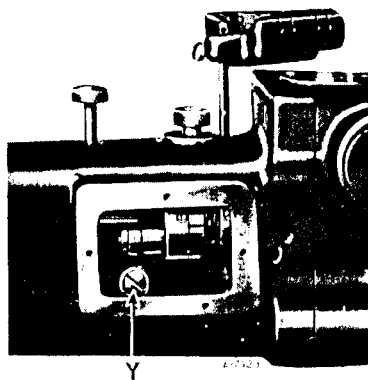

Fig. 19
Remove the face plate and needle bar rock frame, then loosen the clamp screw at (Y, Fig. 19) and draw out the rock shaft and remove the sleeve.
If the distance between the vibrating presser bar and the lifting presser bar is more or less than $\frac{3}{8}$ inch, see that the feeding mechanism is set so that there is no feeding movement of the needle bar, then remove the cover at the front of the machine, loosen the clamp screw (Y, Fig. 19) which holds the needle bar rock frame rock shaft and move the needle bar frame forward or backward to the required distance. A piece of metal of the correct width may be used to determine the correct distance. When the adjustment has been made, securely tighten the clamp screw (Y), replace the cover plate and restore the feeding mechanism to its original position.